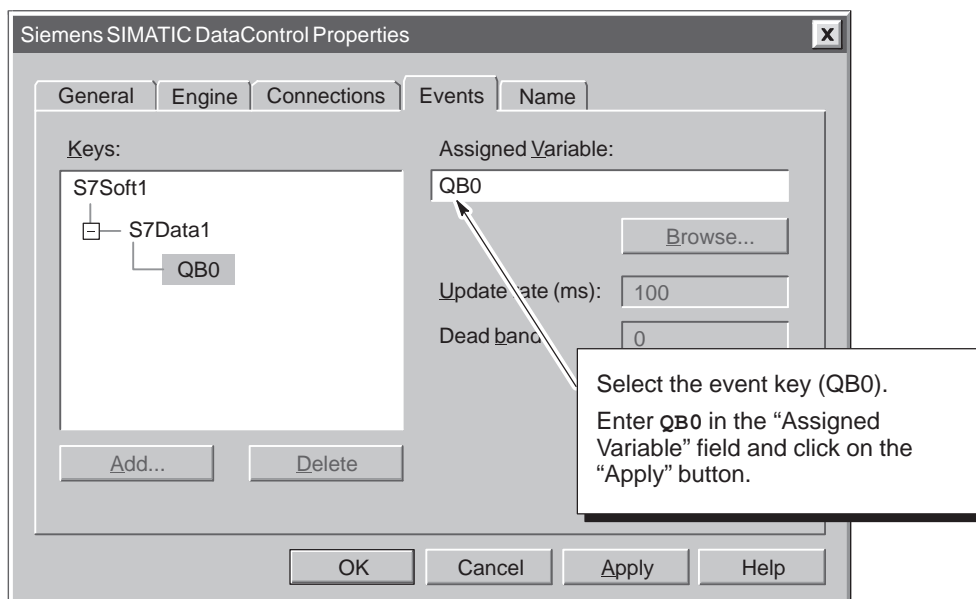

Figure 1-16 Assigning a Variable to an Event Key
3. In the “Properties” dialog box, enter memory address **QB0** in the “Assigned Variable” field. See Figure 1-16.